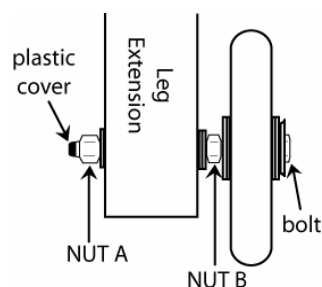

Figure 6: Non-Swivel Wheels
- a) Identify the nut that is between the wheel and the leg. See figure 6.